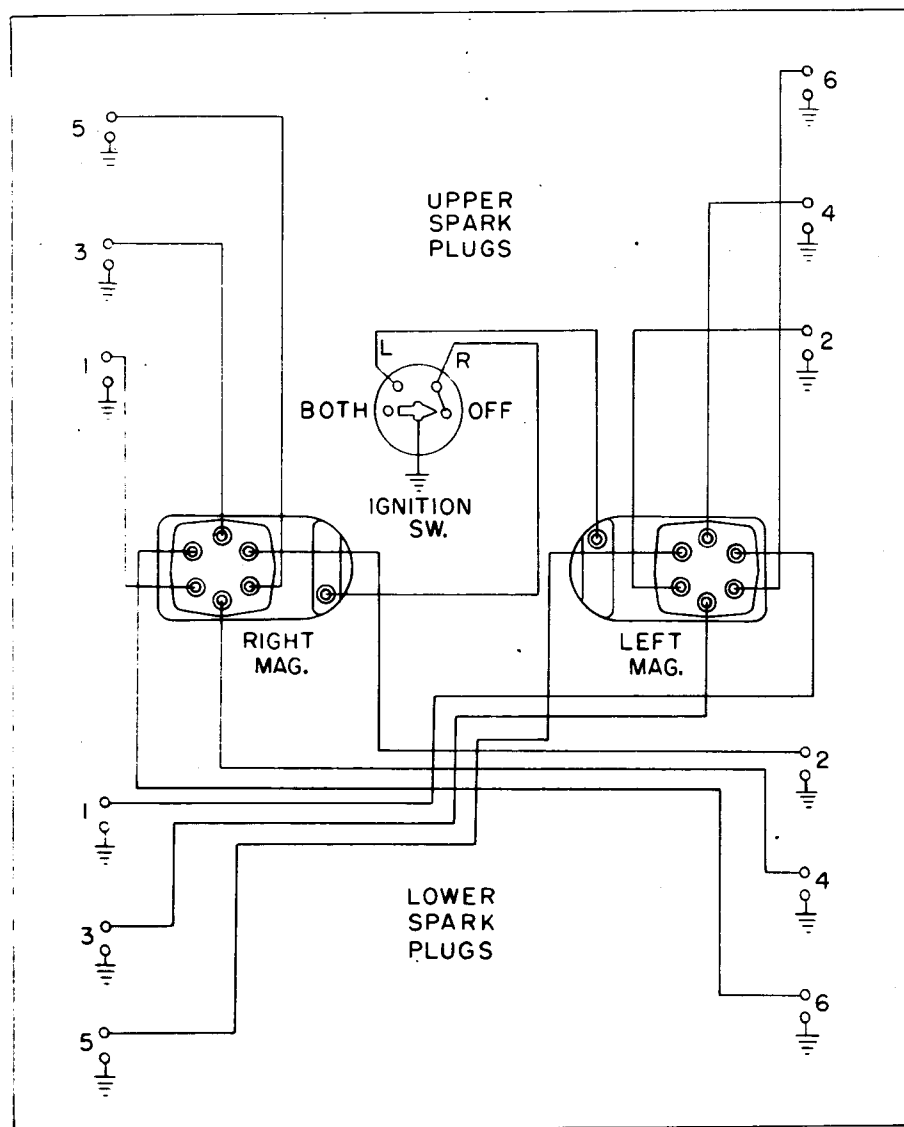

Figure 55. Ignition Wiring Diagram
a. The high tension cable outlet plate of each cable assembly can be attached to either magneto in only one position, due to the unequal screw spacing. The very shortest ignition cable is for No. 1 upper spark plug, and identifies the proper assembly for the right magneto. The wiring may be traced with the aid of either figure 40 or figure 55. Notice the "1" on the outlet plates next to the No. 1 cylinder cable outlet holes.
c. Lay the lower spark plug cables from each magneto across the brace (22) on the crankcase top flange in two layers of three cables each. Install the clamp and its attaching parts (23, 24, 25).